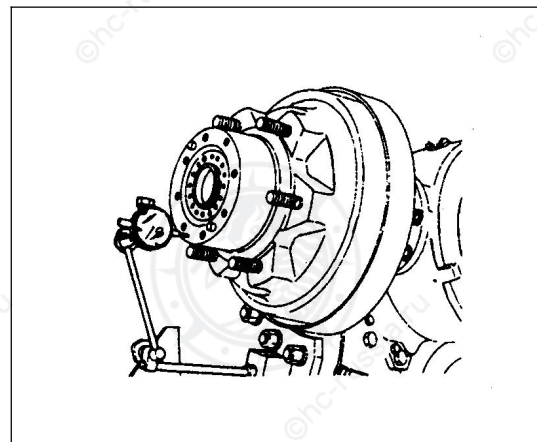

Fig.2-4-8
- 8) Measure axial play of wheel hub to see if it is within specification. Axial play is less than 0.08mm (refer to Fig.2-4-8) .